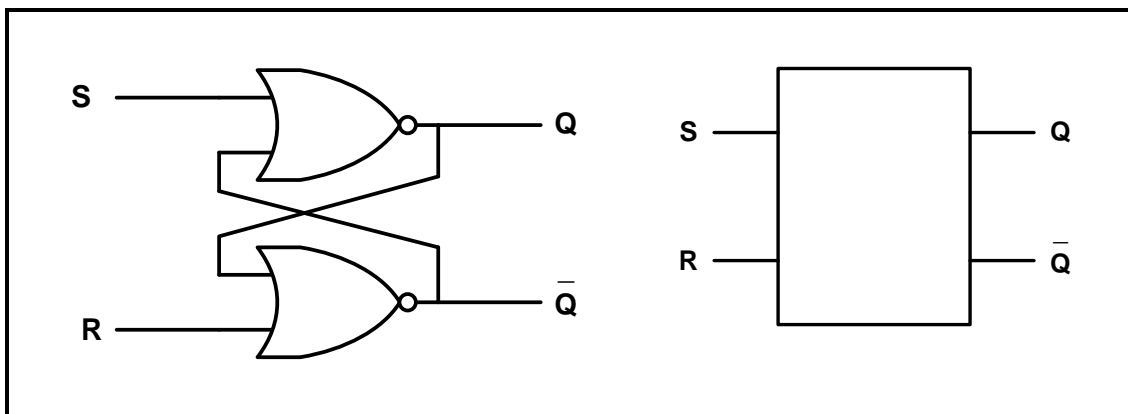

FIGURE 4.8: LOGIC SYMBOL OF AN ACTIVE HIGH LATCH (RS LATCH)
4.8 Refer to FIGURE 4.8 below and answer the questions that follow.